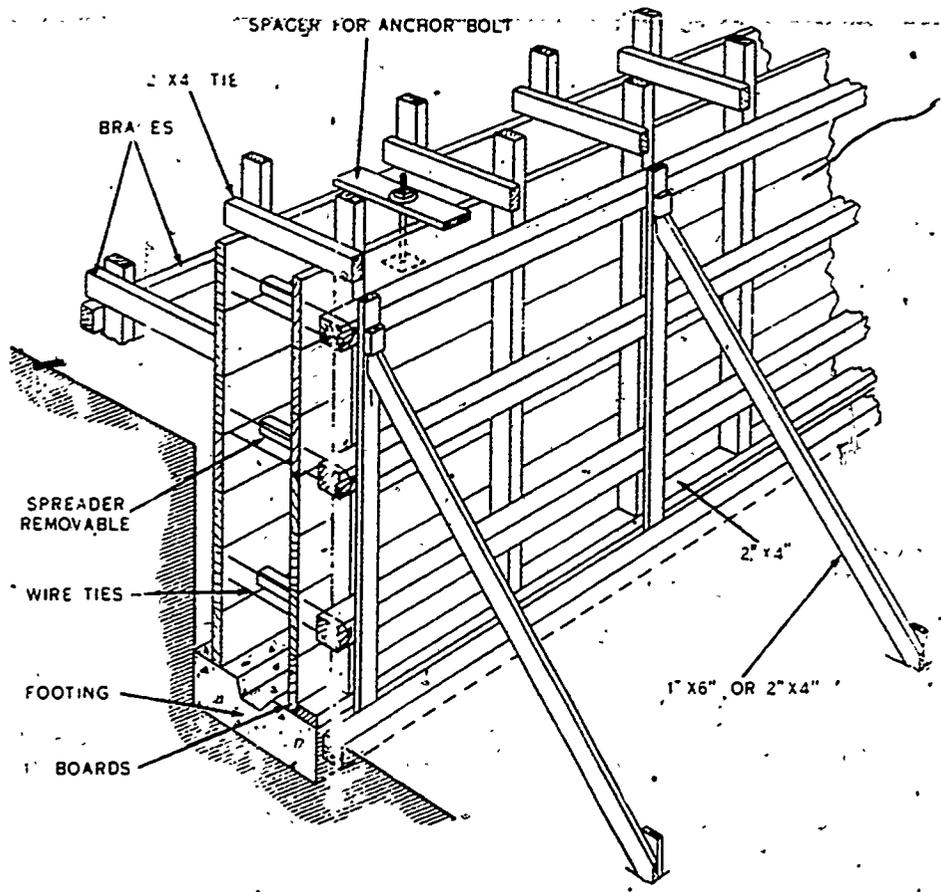

Figure 2
1. Construct a wood wall form, as shown in figure 2. Follow the instructions given you by the instructor.